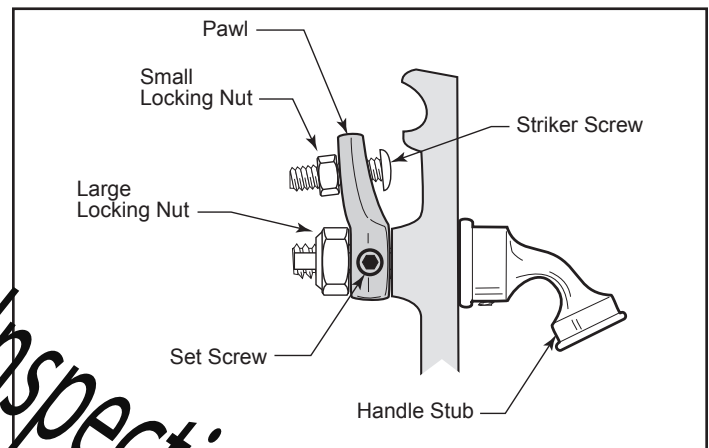

Figure 12 – Turn the door latch striker screw in or out to tighten or loosen the door latch.
1. Loosen the small lock nut with a 7/16" wrench. (Figure 12)